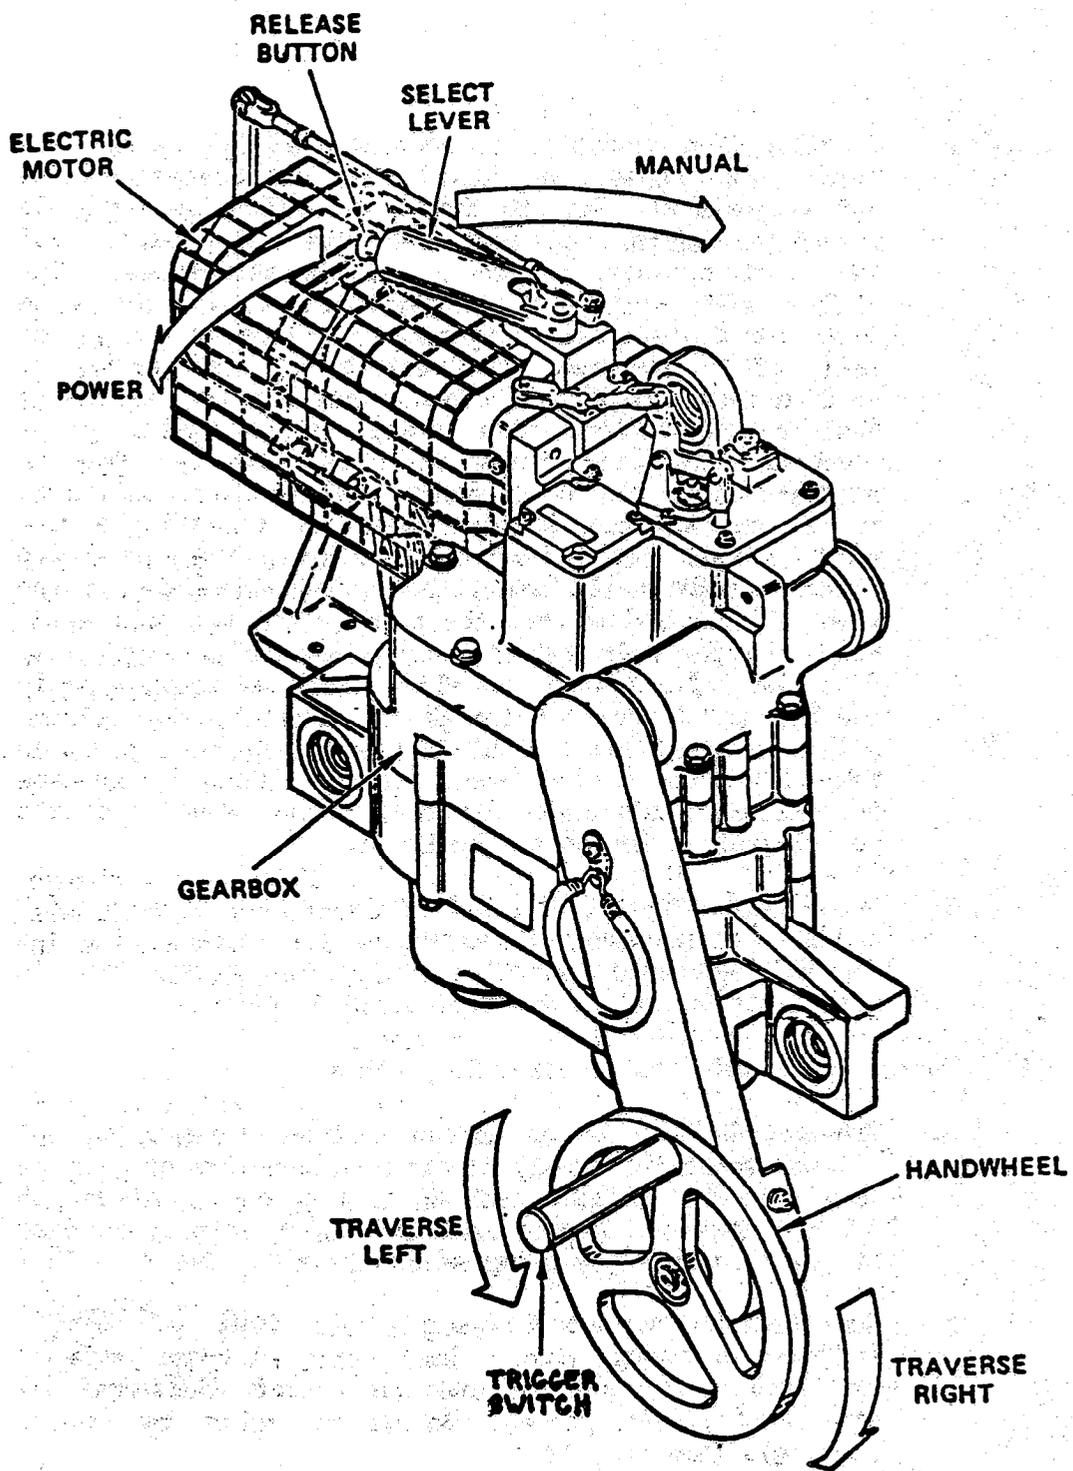

Fig. 13
- a. Traverse Drive - moves turret through continuous 360° azimuth rotation. Fully electric driven through gearbox (D.C. Motor). Maximum rate 60° per second, minimum .05 mil per second. Manual handcrank with trigger in case of power failure (by using select lever). (See Fig. 13.)